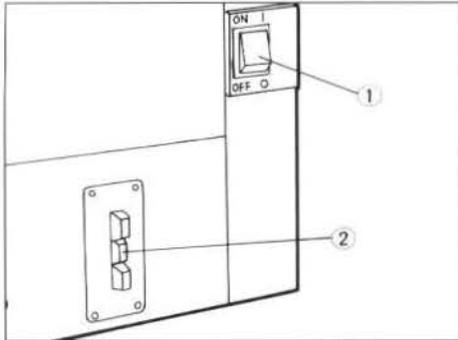

Fig. 22
The green pilot lamp lights up and the cooling fan are activated. (Fig. 22)
2. Press the low voltage selector button "PHOTO" ②. (Fig. 22)